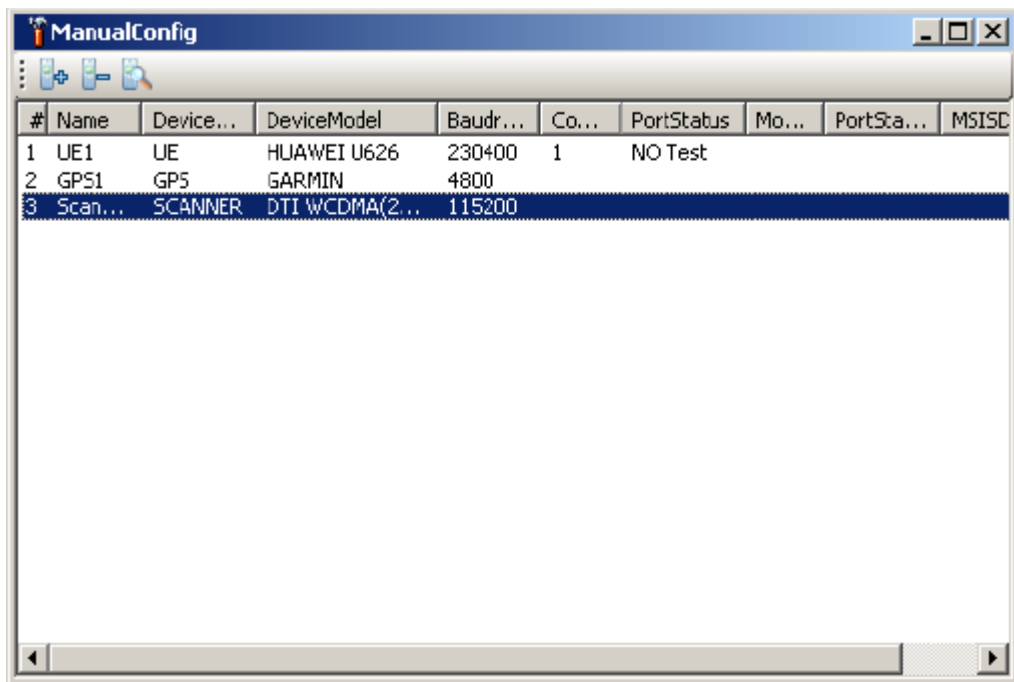

Figure 10-1 Adding a device
- 2) Click  to add a device, as shown in Figure 10-1.